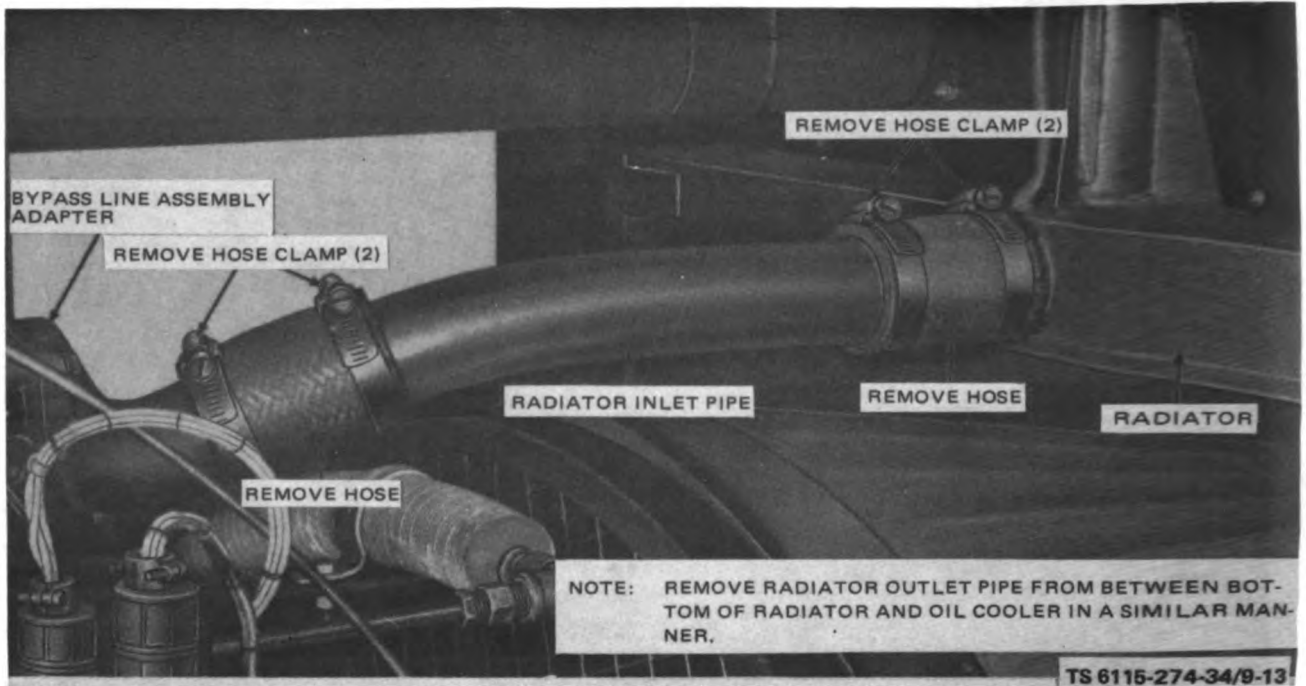

Figure 9-13. Radiator Inlet Pipe, Removal and Installation
(1) Remove the RH engine door, LH engine door and the engine hood by removing attaching hardware.
(2) Remove radiator drainplug and drain coolant into a suitable container.
(3) Remove hose clamps and hoses and remove radiator inlet pipe (fig. 9-13).